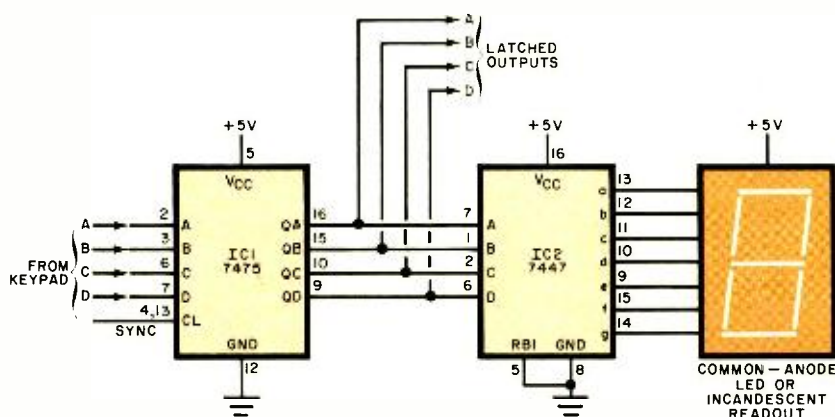

Fig. 11. Latched output for a keypad. Display is on a 7-segment LED readout.
**Switch Latch & Display.** One difficulty with a keypad is that it is momentary. Once a key has been released, the action ceases. The addition of a quad latch, as shown in Fig. 11, will hold the switch outputs as long as dc power is applied. The IC1 quad latch is used to drive BCD-to-7-segment decoder/driver IC2 and a common-anode 7-segment LED display. This combination holds the last key depression and also produces a visible display of the digit depressed.